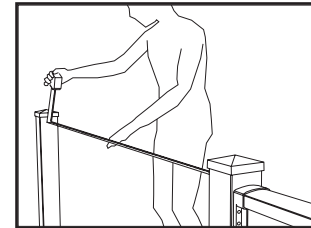

Fig. 1
2. Measure the inside opening between the posts or other mounting surfaces. **NOTE: Confirm the opening is not wider than the length of the rails provided in TAM-RAIL Rail Kit. (FIG. 1)**